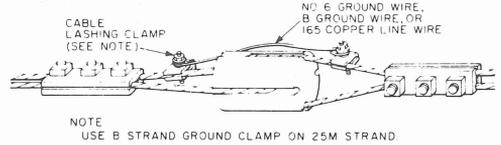

Fig. 18—Strapping Out an Insulator
3.13 If the work plans or other instructions require that an existing insulated guy be grounded, it will frequently be necessary to make the insulator ineffective. This is done by strapping it out as shown in Fig. 18. On 25M guys, it will be necessary to use B strand ground clamps instead of cable lashing clamps. Do not attempt to strap out insulators in guys belonging to the electric utility.